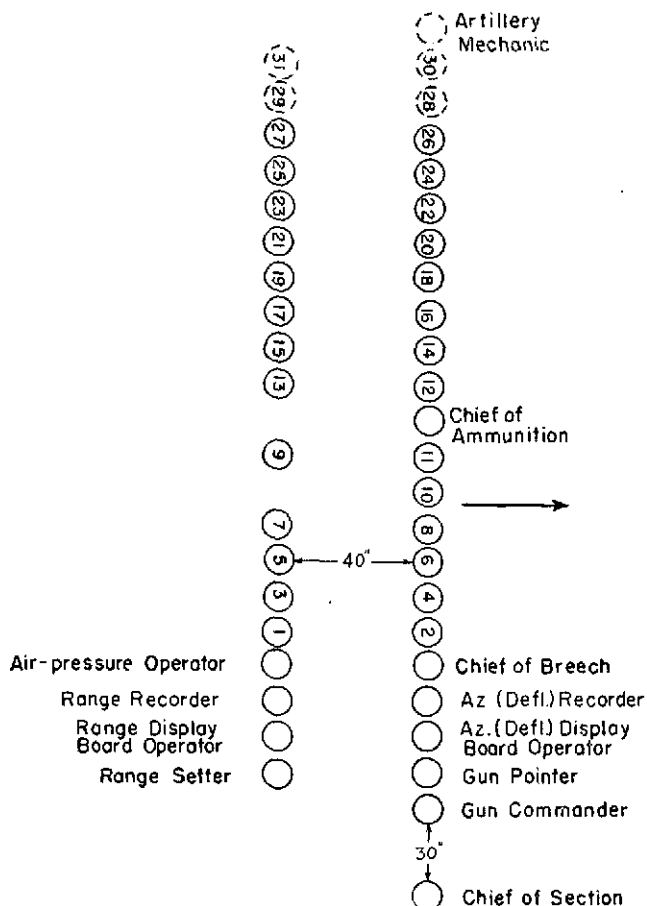

FIGURE 1.—Formation of the gun section.
■ 6. FORMATION.—Each section assembles in two ranks with 4 inches between files and 40 inches between ranks. The post of the chief of section is in the front rank, 1 pace to the right of his section. The artillery mechanics who are members of the maintenance section normally form with the firing sections, and take posts in the front rank on the left of the first and last gun sections. (See fig. 1.)